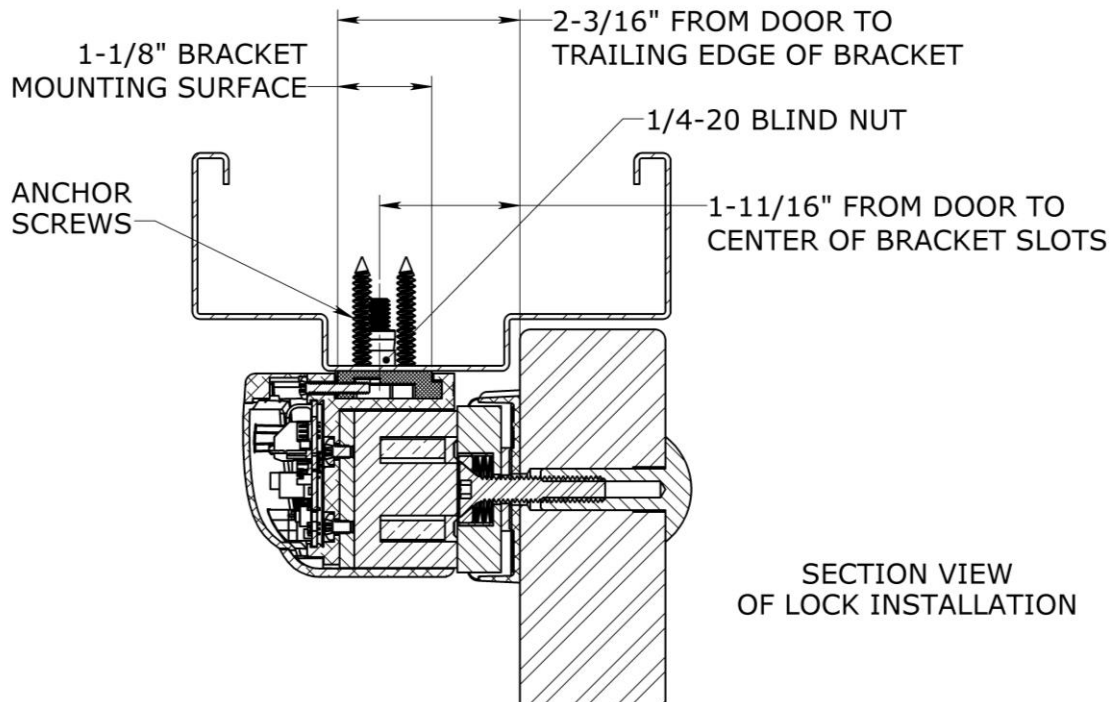

Figure 2. Assessing the Installation Site
1. ENSURE you have at least 2-3/16" between the closed door and the edge of the header. If not, you will require additional bracketry (see Figure 2, “Assessing the Installation Site”).